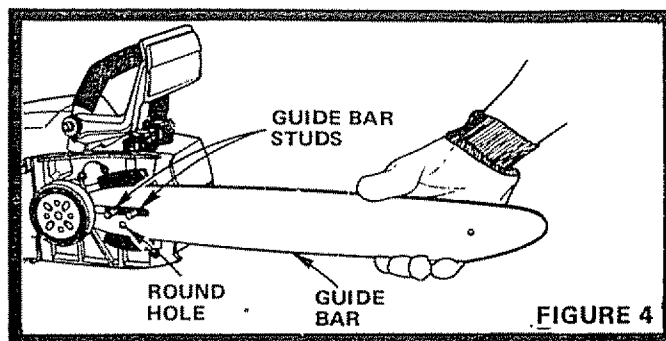

FIGURE 4
4. Place Guide Bar over Guide Bar Studs. NOTE: BAR GOES ON ONLY ONE WAY--NOTE CONTOUR OF BAR (FIG. 4). ALSO, THE SMALL ROUND HOLE COMPLETELY THRU THE BAR IS BELOW BAR SLOT.